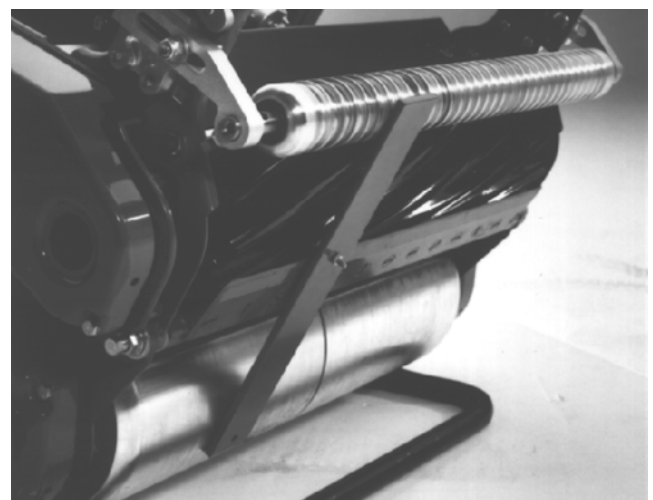

Figure 17
5. Hook adjusting screw head on the cutting edge of the bedknife. Rest the rear end of the bar on the drum (Fig. 17).